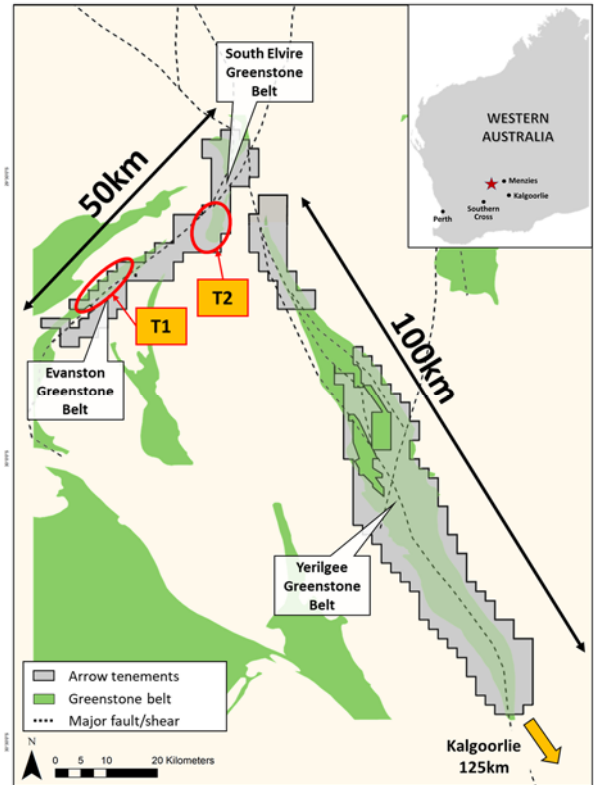

Figure 1: Strickland Gold Project location map
Arrow Minerals Limited (**Arrow** or the **Company**) is pleased to announce the results from the recently completed ground induced polarisation (IP) and resistivity survey at the T1a and T2b Prospects within the 100% owned Strickland Gold Project, located 125km north-west of Kalgoorlie in the Yilgarn Craton of Western Australia (*Figure 1*).